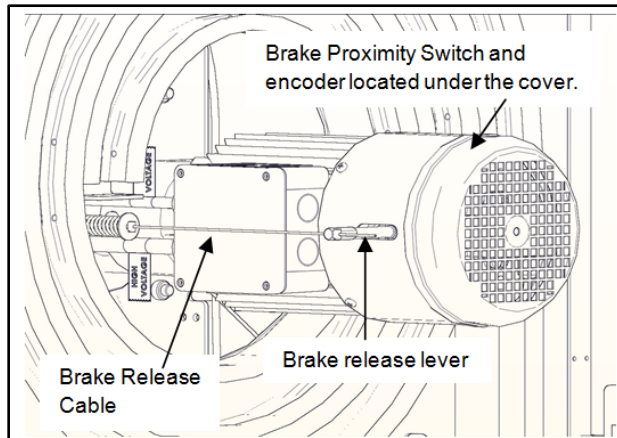

Figure 32
4. Inspect the entire length of the brake release cable running from the brake release handle to the electric brake mechanism located on the drive motor assembly. The cable should not be frayed, worn, or damaged. Replace if necessary. (See Figure 32.)
6. Inspect the cable clamp on the lower end of the cable to ensure it is securely fastened to the brake release handle. (See Figure 32.)